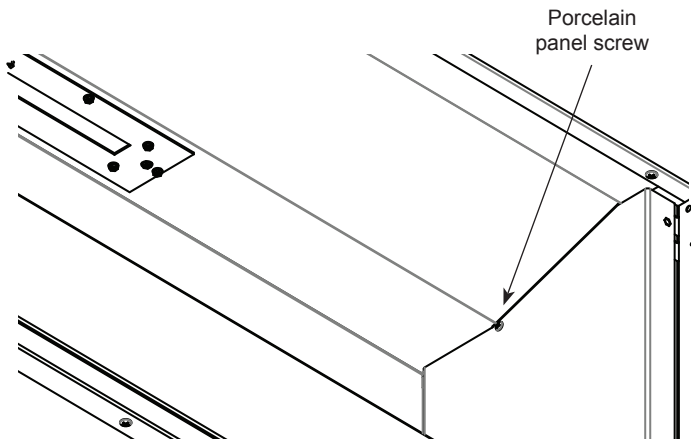

Figure 28 Porcelain Panel Screw Location
3. Using a Phillips screwdriver remove the screws (one each) holding the left and right porcelain panels in place. *Figure 28*